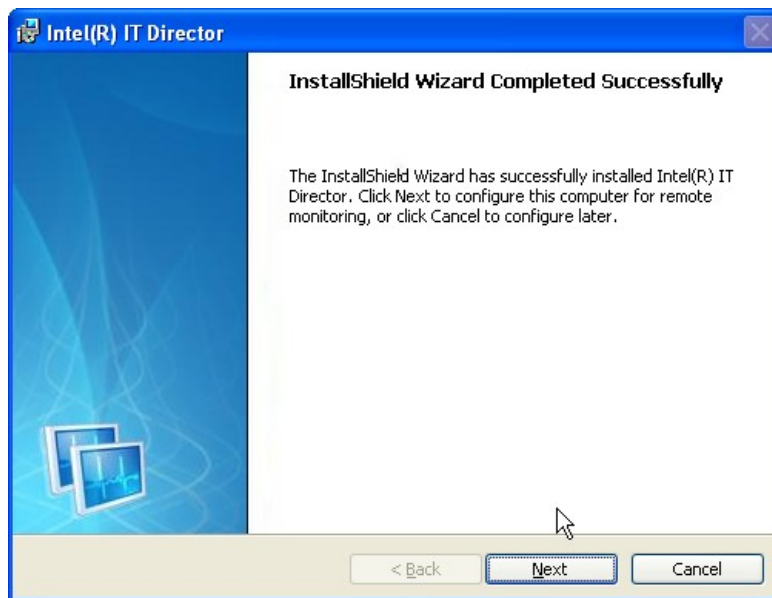

Figure 6-36: IT Director Installation Complete
Step 14: When the driver installation is complete, the screen in **Figure 6-36** appears.